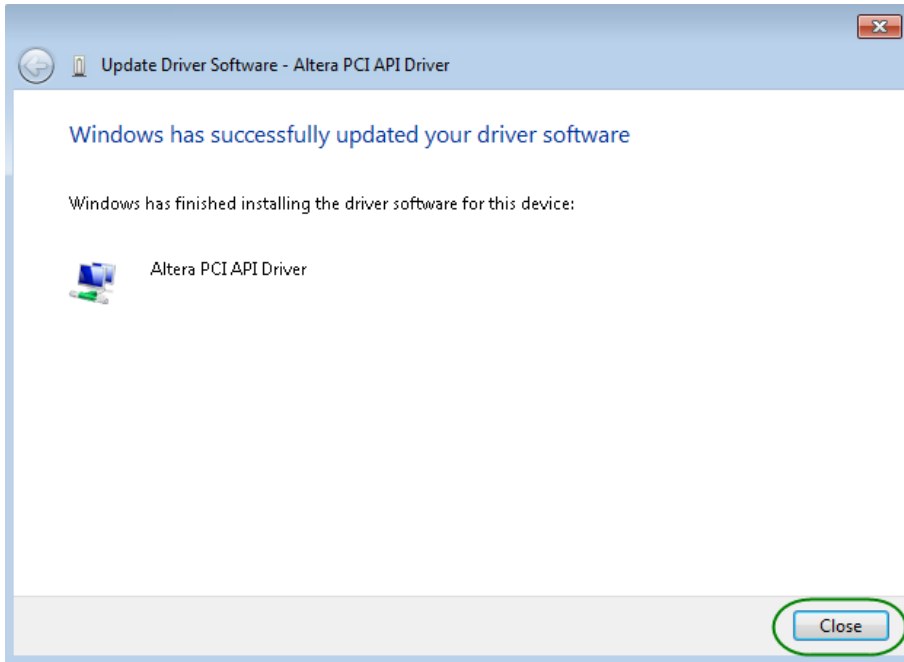

Figure 7-8 Click Close when the installation of Altera PCI API Driver is complete
Figure 7-8 shows the software stack for the PCI Express application software on 64-bit Windows. The PCI Express driver incorporated in the DLL library is called Terasic_PCIE_AVMM.dll. Users can develop their applications based on this DLL. The altera_pcie_win_driver.sys kernel driver is provided by Altera.
11. When the driver is installed successfully, the successfully dialog will appears, as shown in Figure 7-8. Click the **Close** button.